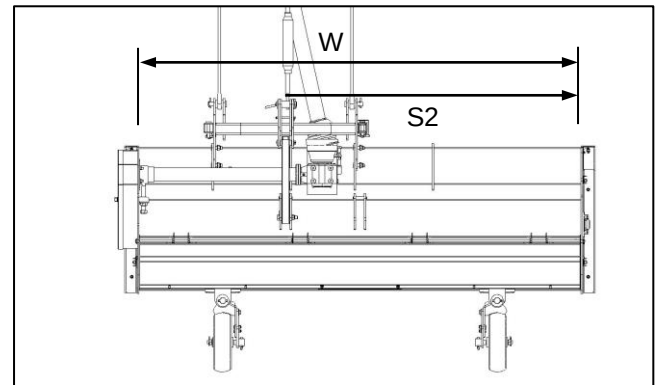

Fig. 7
- ✓ Maximum offset position (Fig. 7) $S2 = \text{Working width (W)} \text{ minus } 1\,000 \text{ mm.}$
- ✓ Maksimumkontraposisie (Fig. 7) $S2 = \text{Werkswydte (W)} \text{ minus } 1\,000 \text{ mm.}$